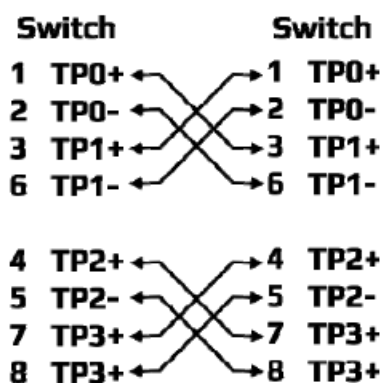

Figure 2.3
*Figure 2.3*, below, shows the top panel of the LNP-2602G-SFP(-T) series switch that is equipped with one 8-connector redundant power inputs (48-55VDC) and one 2-pin terminal block for relay output.